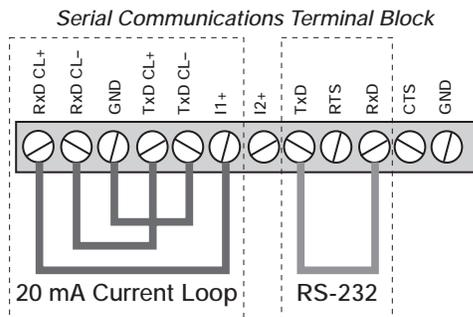

Figure 5-7. Terminal Block Connections for Loop-Back Self-Test
4. Connect jumpers to the terminal block as shown in Figure 5-7. Wire the terminal block only for the type of communications you are using (RS-232 or 20 mA), not both.